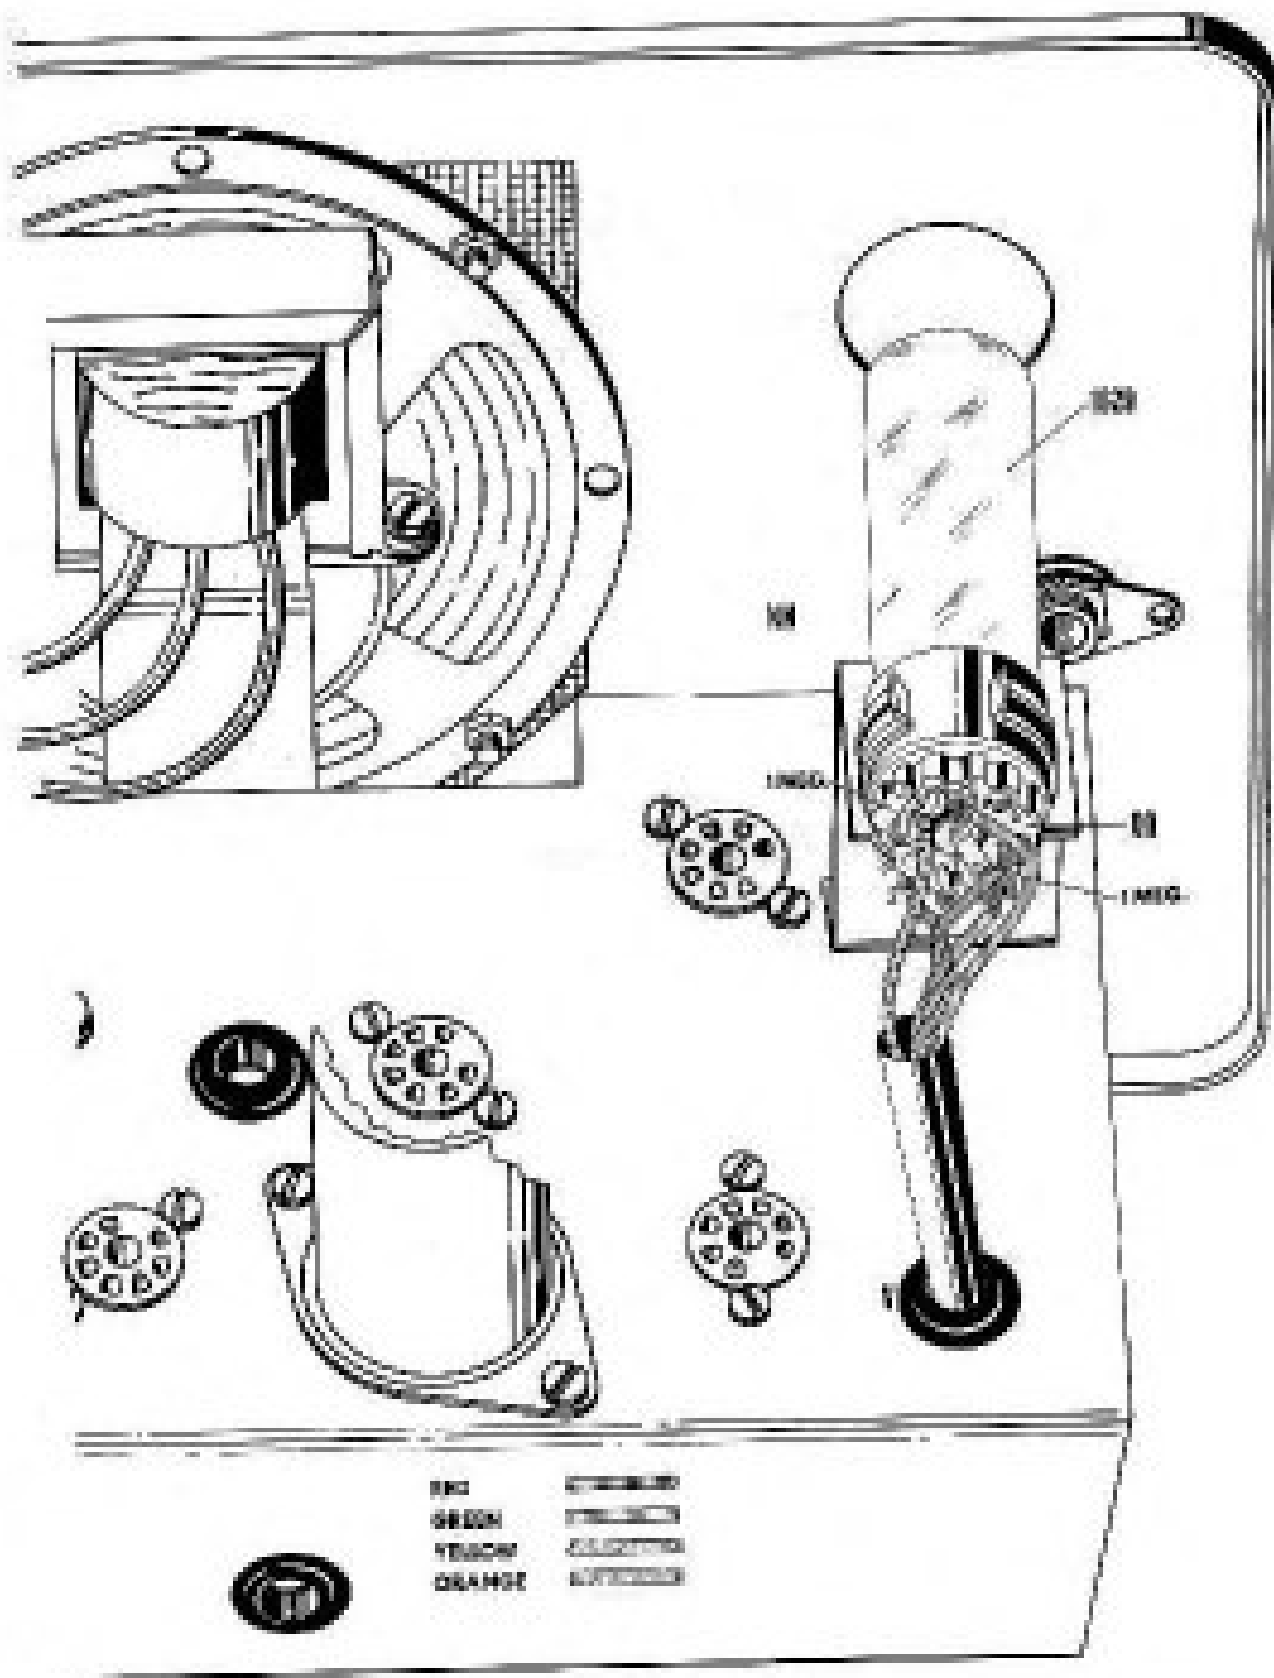

FIGURE 11
REFER TO FIGURE 11
- () 128. Place the 1629 tube in spring clip BN with the tabeway pointing down toward the chassis. The tube should be seated in the clip so that the clip fits around the Bakelite base. See Figure 11.